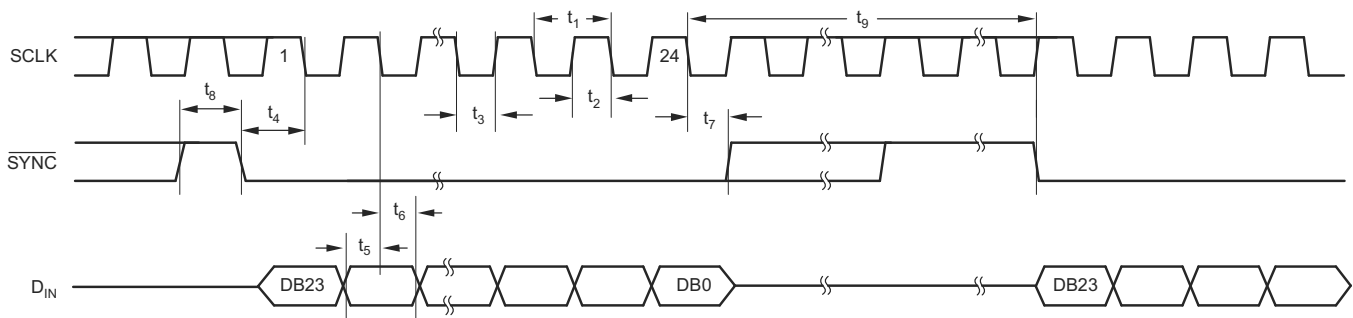

Figure 1. Serial Write Operation
(1) All input signals are specified with $t_R = t_F = 5\text{ ns}$ (10% to 90% of V_{DD}) and timed from a voltage level of $(V_{IL} + V_{IH})/2$.
(2) See Serial Write Operation timing diagram Figure 1.
(3) Maximum SCLK frequency is 30 MHz at $V_{DD} = 3.6\text{ V to }5.5\text{ V}$ and 20 MHz at $V_{DD} = 2.7\text{ V to }3.6\text{ V}$.